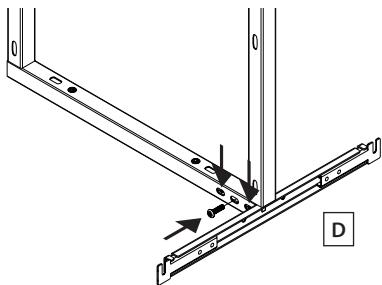
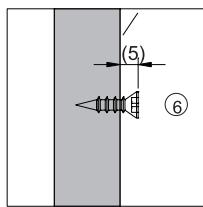

fig. 10
fig. 11
14) Now you are ready to hang the door. Drive two screws (#6) into only the top two pilot holes per figure 10. Position the door so the screws fit into the T type door mount bracket (figure 11). Double check to make sure the door is in the correct position, using two #6 screws affix bottom T door mount bracket to door (figure 12) and tighten top screws.